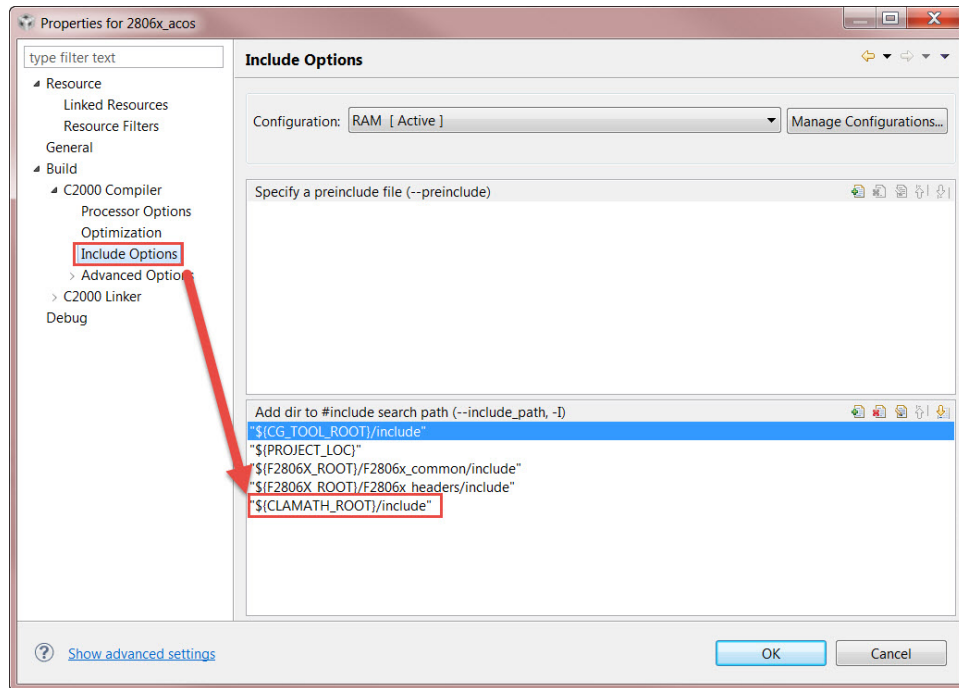

Figure 4.5: Adding the Library Header Path to the Include Options
2. Add the new path, **CLAMATH_ROOT/include**, to the *Include Options* section of the project properties (Fig. 4.5). This option tells the compiler where to find the library header files.